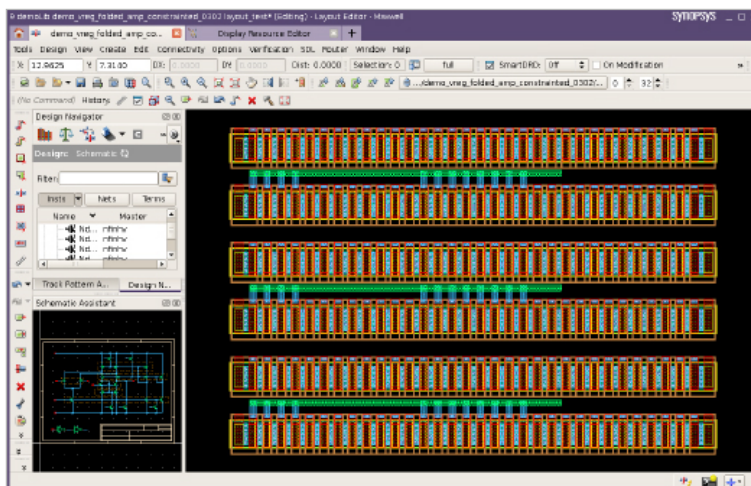

Figure 2: Interactive routing with automatic cloning and pin tapping
**Layout Assistants** speed layout with visually-guided automation of device placement and routing. The placer uses a new innovative approach to device placement. It works iteratively with the user, offering placement choices but leaving the layout designer in full control of the results —without requiring any up-front constraint entry. The router is ideal for connecting FinFET arrays or large-M factor transistors. It automatically clones connections and creates pin taps. The user simply guides the router with the mouse and it fills in the details automatically. Figure 2 shows the router connecting up